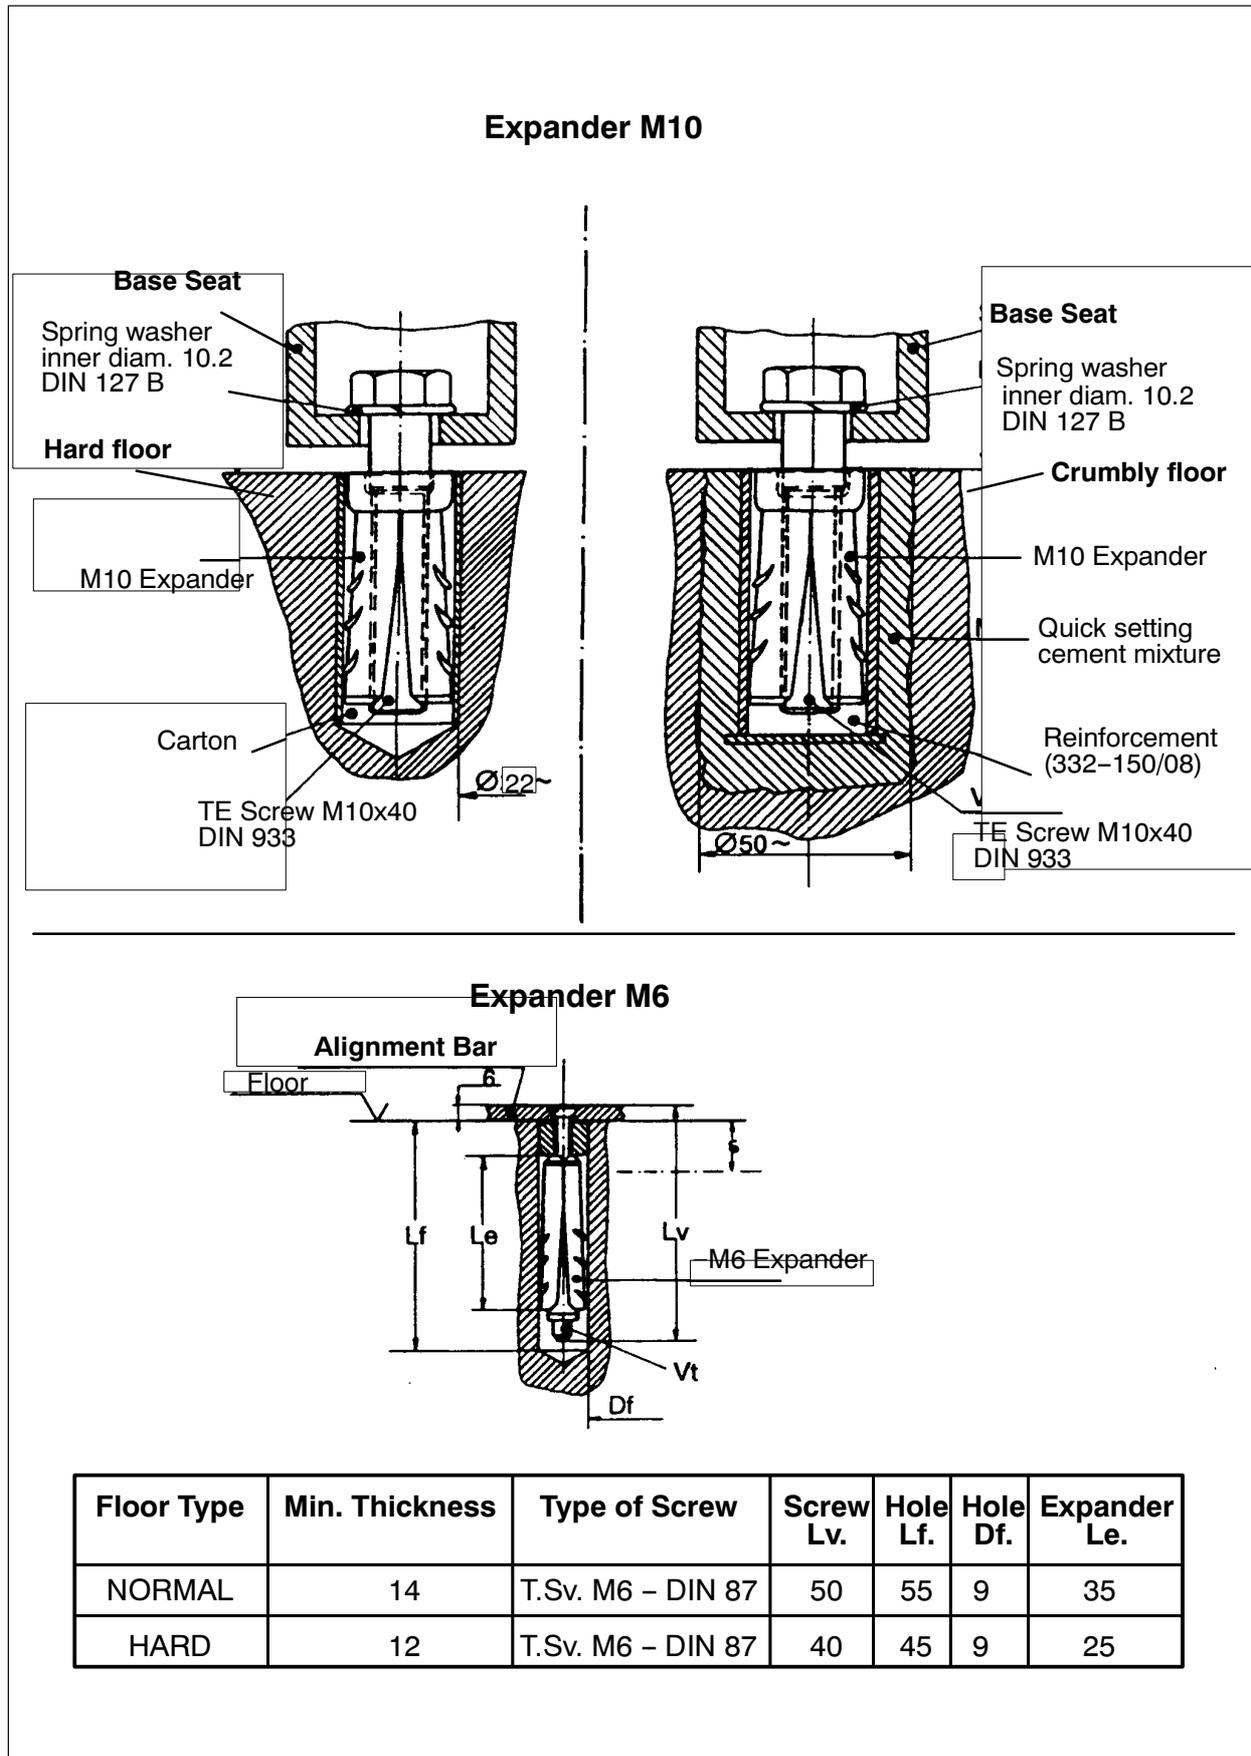

Fig. CC-4 Expander characteristics
(Fig. CC-4) shows the characteristics of the M6 and M10 expanders for concrete floors.
5. Drill the holes of a suitable diameter depending on the floor hardness (Fig. CC-4) ; in the case of a crumbly floor the hole must be larger (about 50mm) so that it can be filled with quick-setting cement mixture in which M10 expander can be embedded.